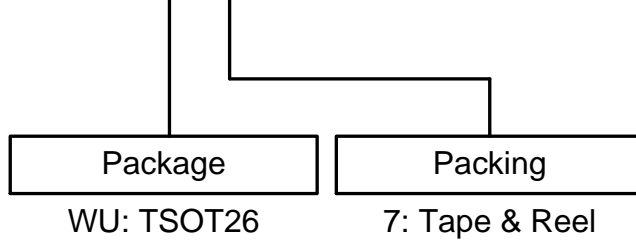

**Figure 26. Recommended PCB Layout**
9. See Figure 26 for more details.